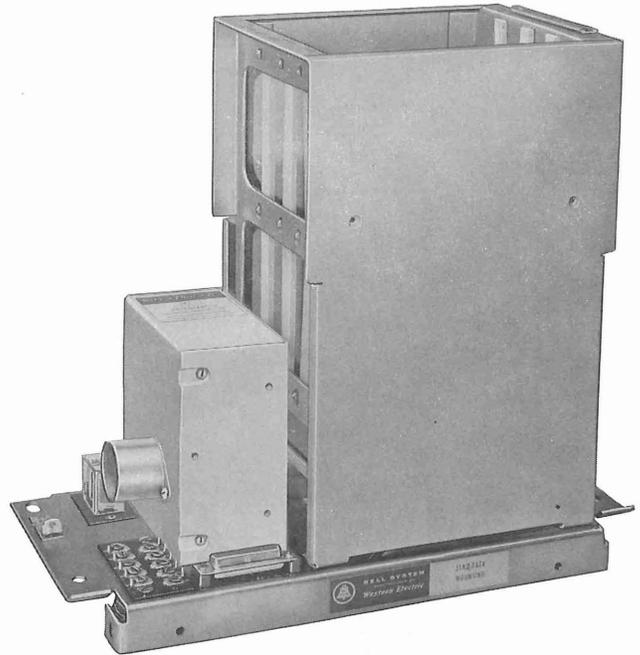

Fig. 1—31A2 Data Mounting
1.03 The 31A2 Data Mounting (Fig. 1) consists of a 73A apparatus mounting, a KS-19087-L2 (25-pin) connector for connecting the teletypewriter (TTY) to the data mounting, and a voiceband loop-around relay. Provided on the data mounting is a terminal board for connection of the incoming line facilities. Access for an external illuminating TEST key, VBLA (Voiceband Loop Around) key, and a CF lamp is also provided on the data mounting. An 18A1 power unit (with associated M3AY cord) is mounted on the 31A2 Data Mounting to provide power for the 1A Data Station Single Channel Arrangements. The 73A apparatus mounting is designed to hold four DP-type circuit packs, which must be ordered separately.